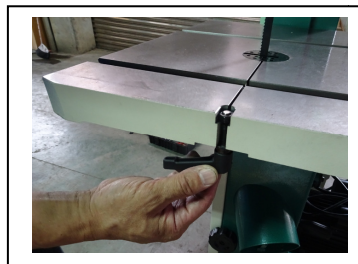

Figure 3
3. Install table insert. Then, install table gap screw assembly, secure with (1) M8 nut, (2) M8 flat washer and tighten gap screw. (see Figure 3)